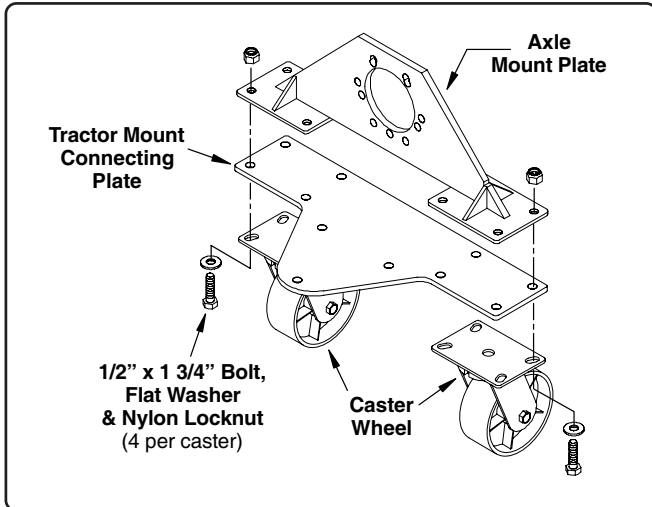

Fig. 2
2. Locate one of the axle mount plates from the kit. Attach a caster wheel on each end of the mount plate using four (4) 1/2" x 1 1/2" bolts, flat washers and nylon locknuts for each wheel (See Fig. 2).
4. Locate the second axle mount plate from the kit and position the plate on top of the tractor mount connecting plate (See Fig. 2). Attach the caster wheels to the bottom side of the connecting plate using four (4) $1/2"$ x $1 3/4"$ bolts, flat washers and nylon locknuts for each wheel.